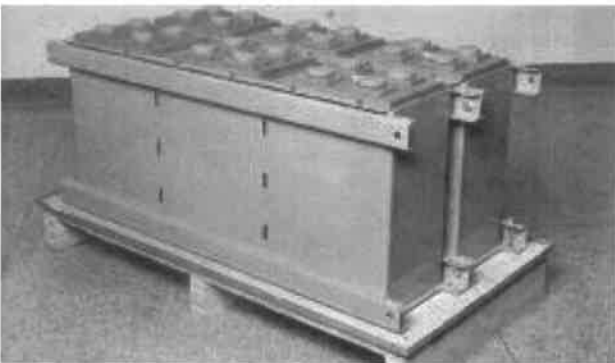

Figure 2: The modules bolted together and to the pallet using transit bolts
- d) remove the lid and four sides from a case of modules. Note that for security during transportation the two modules are bolted both together AND to the base pallet of the packing case, see Fig 2. Remove all the transit bolts to allow the modules to be lifted clear of the pallet base and onto the floor.